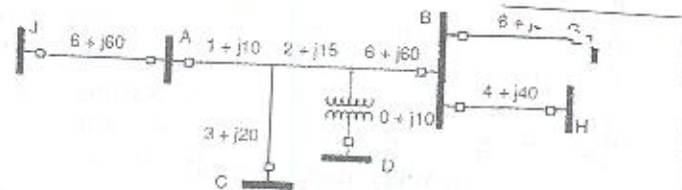

Fig. 4
- 5-c Consider the multi-terminal line in the system shown in Fig. 4. Each of the buses C, D, G, H and J has a source of power behind it. For a three-phase fault on bus B, the contributions from each of the sources are as follows: